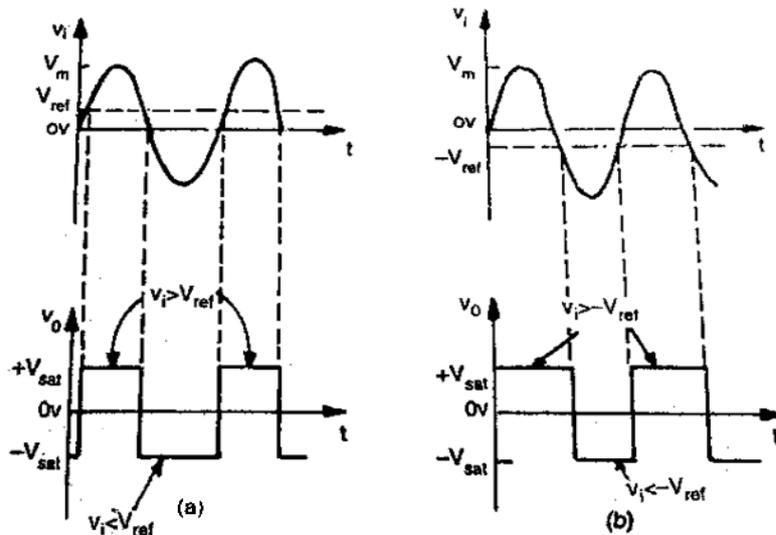

Fig. 3.19 Input and output waveforms for (a) V_{ref} positive (b) V_{ref} negative
- The output waveforms for a sinusoidal input signal applied to the (+) input is shown in Fig.3.19 for positive and negative V_{ref} respectively.
- In the waveforms of Fig.3.19 and 3.22, the output transitions are shown as taking place instantaneously.